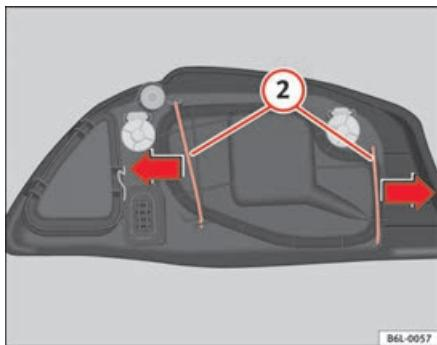

Fig. 153 Main beam lamp
- Remove the loops ② ⇒ fig. 153 outwards in the direction of the arrow and remove the cover.
- Fit the plastic cover and replace the loops ② ⇒ fig. 153.